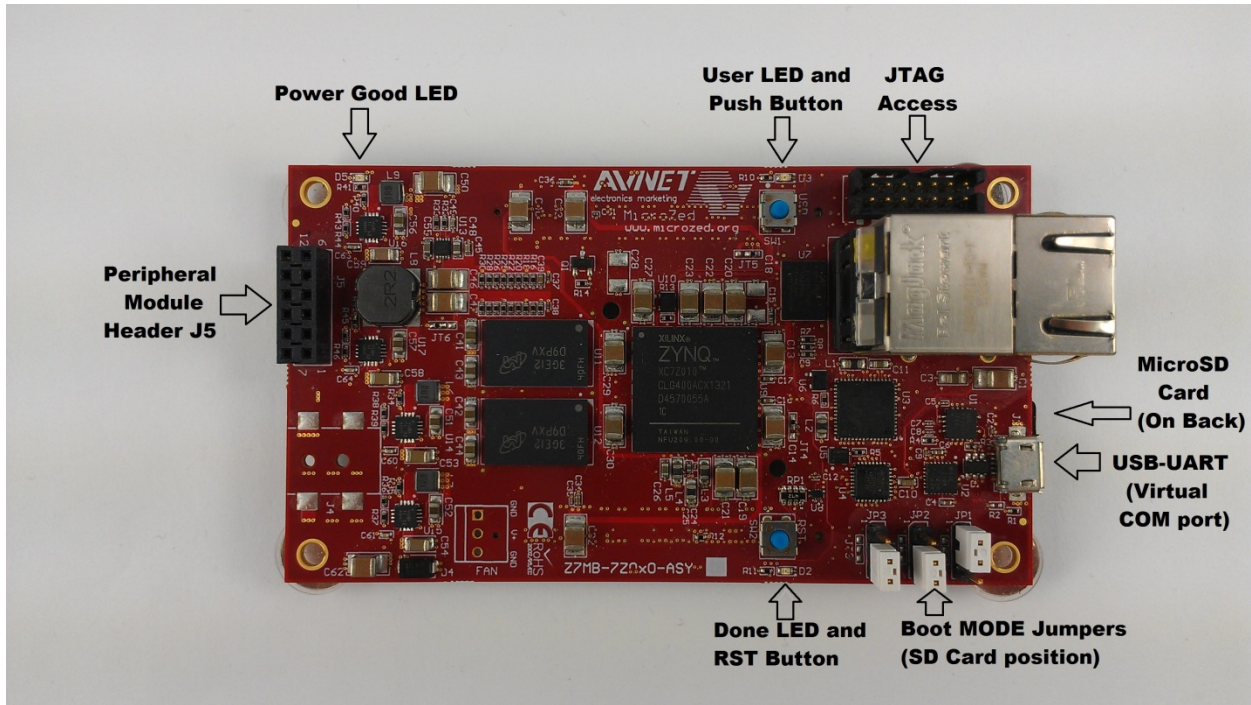

Figure 1. MicroZed Development Board
1. Plug the MAXREFDES44#, component side facing the MicroZed board (Figure 1), into J5 that is the row with pin 7 marked. **Note: The MAXREFDES44# should be preprogrammed per Appendix A: Setup and Program the MAXREFDES44# before plugging into the system.**